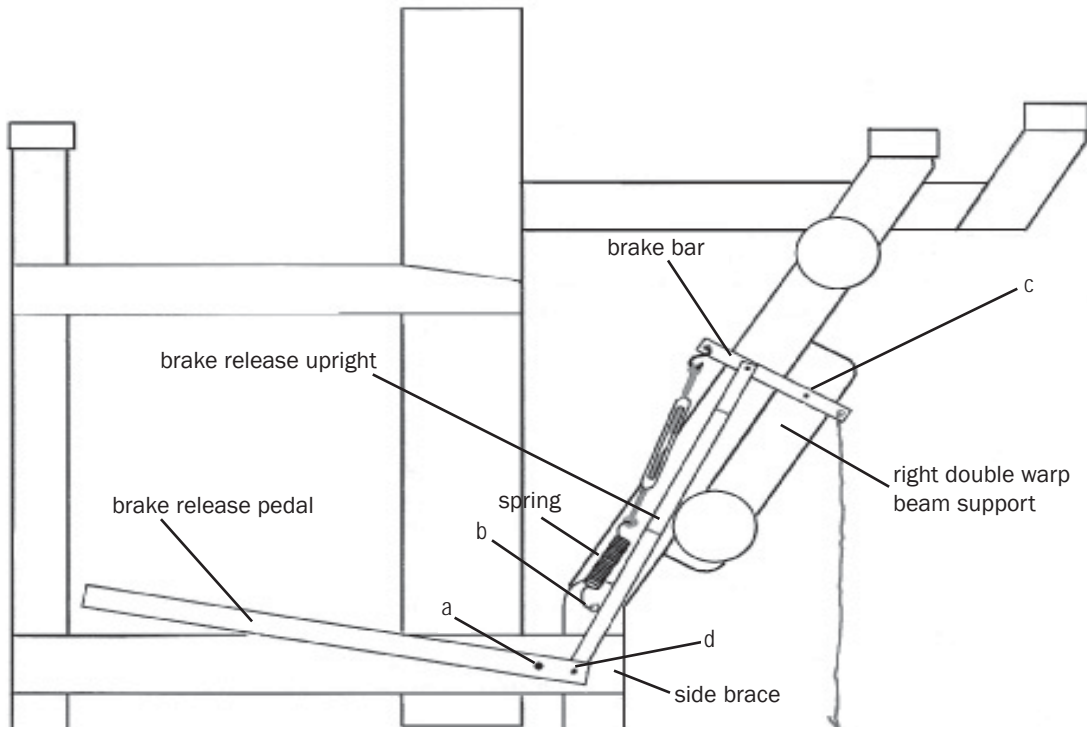

Figure 4
### Attach the Brake Release System (Figures 4 and 5)
9. Place a 1/2" washer on the 1/2" x 2-1/2" hex head bolt, and insert the bolt through hole (a) in figure 4 in the right (as viewed from the rear) side brace from the outside to the inside of the loom. Place another 1/2" washer over the bolt.
10. Remove the carriage bolt at (b) in figure 4 and replace it from the outside to the inside of the loom with the 5/16" x 2-1/4" carriage bolt provided. Tap the new bolt into place by aligning the square hole in the wood with the square shaft of the carriage
### Install the Brake (Figures 4 and 5)
15. Put a 1/4" washer on the carriage bolt at (b) in figure 4. Place the bottom loop of the brake spring over the bolt at (b) followed by another 1/4" washer. Add a lock nut to the bolt and tighten the nut enough to keep the spring in place, while still allowing it to pivot freely.